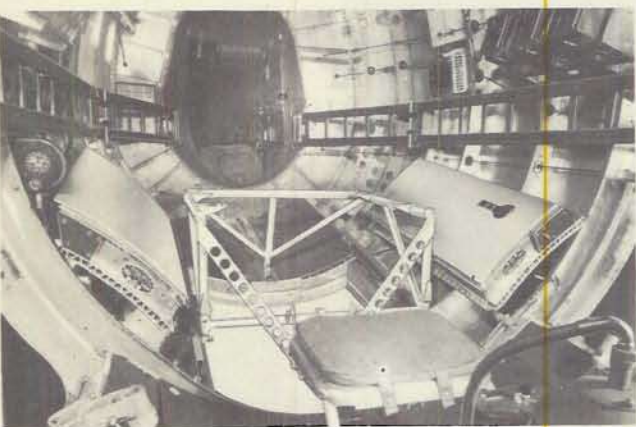

Figure 64—Camera Compartment With Rack in Position
d. SUIT HEAT.—Left wall (fig. 64).